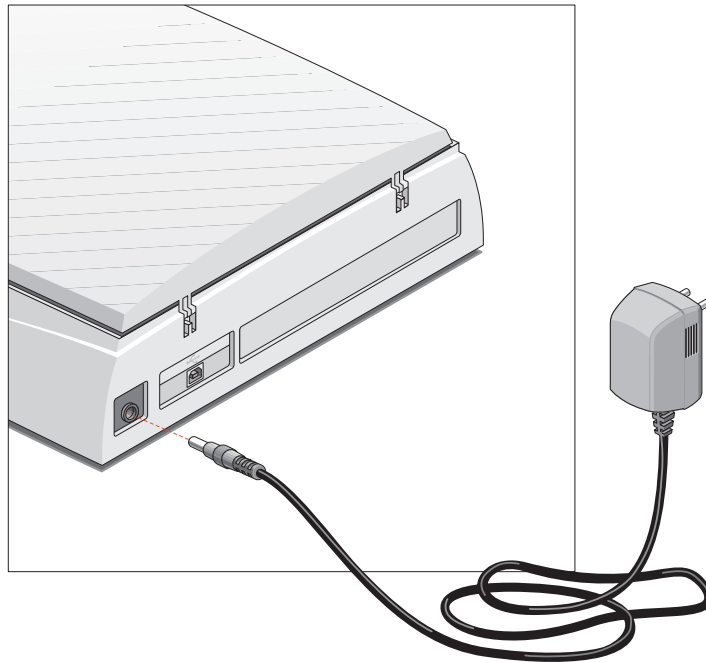

Figure 1
- 1. Connect the plug of the AC adapter to your scanner (Figure 1).
1. Connect the plug of the AC adapter to your scanner (Figure 1).